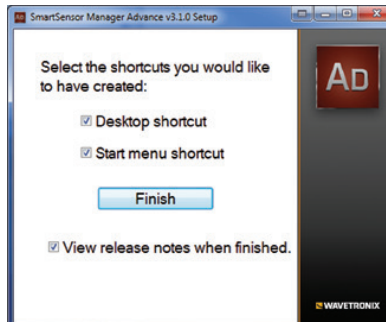

Figure 3.3 – Shortcut Options
- 9 After SSMA is installed, you can create shortcuts to the SSMA software on the desktop and in the start menu using the corresponding checkboxes (see Figure 3.3). If no shortcuts are desired, uncheck the corresponding boxes.